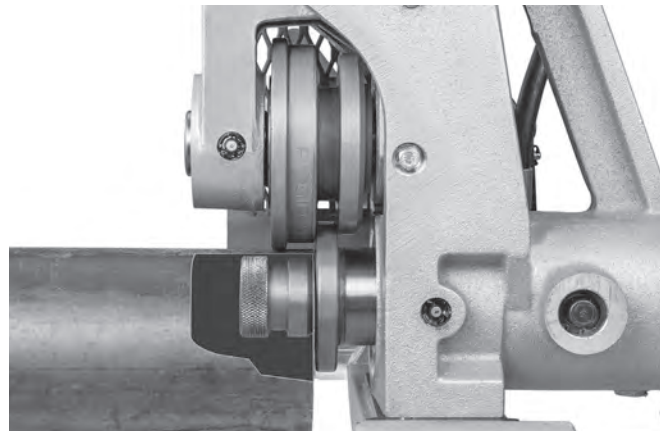

Figure 10 – Placing Pipe Over Drive shaft, Flush to Drive Shaft Flange (Stabilizer Removed for Clarity)
3. Appropriate pipe stands must be available to support the pipe. Adjust the height of the pipe stands so that the pipe will be level and the top inner diameter of the pipe will sit on top of the drive roll (See Figure 10).
4. Place the pipe on the stand(s) with the end of the pipe flush to the drive shaft flange and the inside of the pipe contacting the top of the drive shaft (Figure 10). Make sure the pipe is stable and secure.